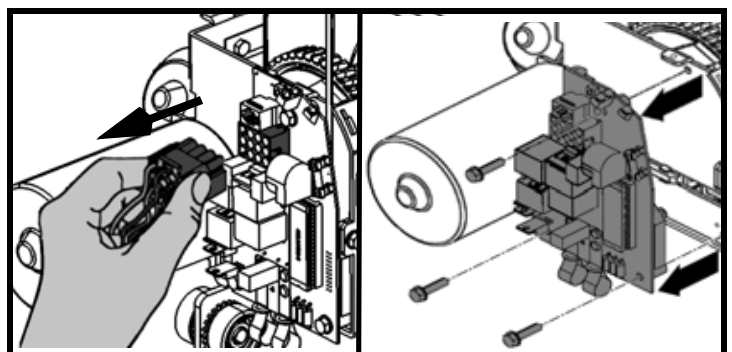

Fig. 10
- 2) Disconnect the main connector (see Fig. 10).
- 3) Unscrew the 3 hexagonal screws using an 8 mm socket (5/16) (see Fig. 10).